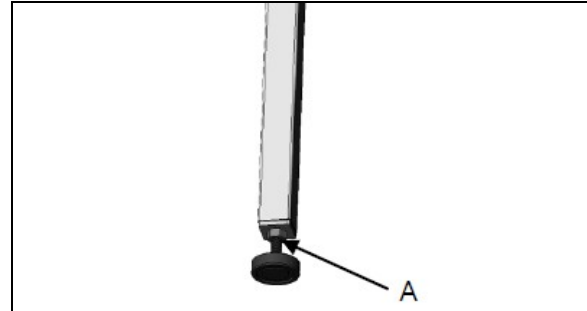

Figure 12
2.) Install the leveling feet with an M8 hex nut A into the bottom of the extension table support leg as seen below in figure 12.